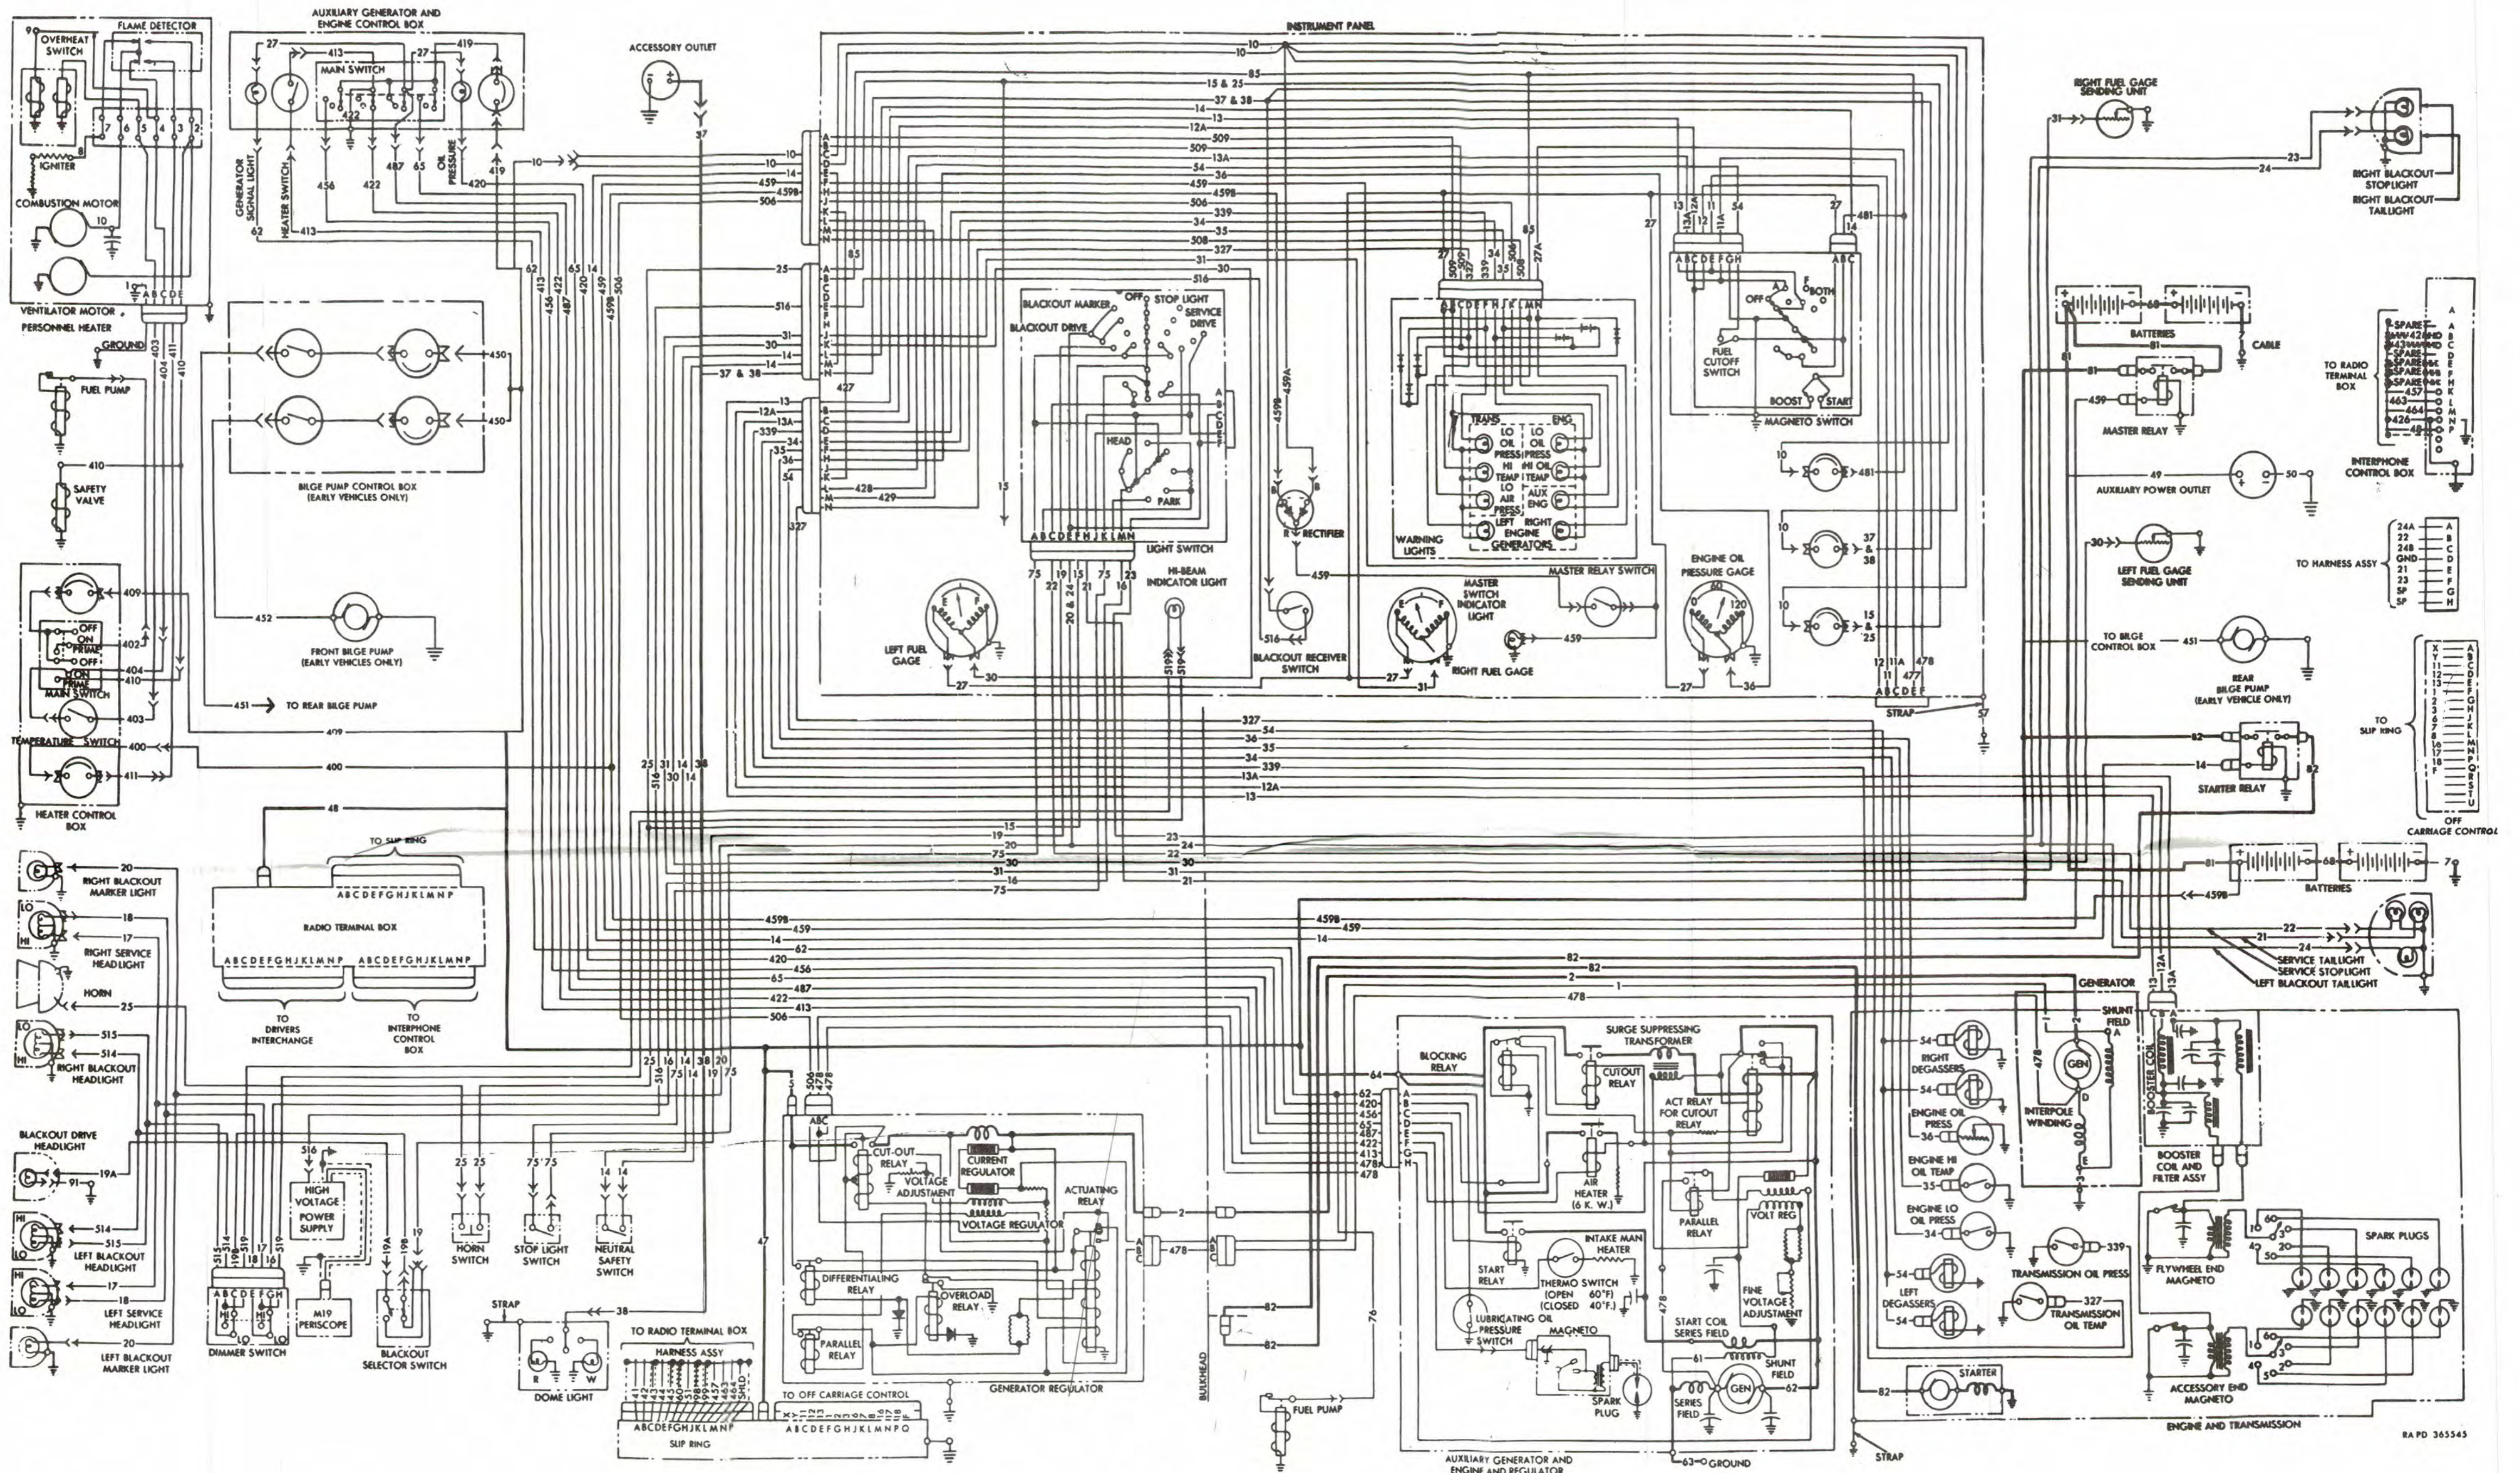

Figure 86. Hull schematic wiring diagram.
b. This technical manual cannot cover all possible troubles and deficiencies that may occur under the many conditions of operation. If a specific trouble, test, and remedy therefor are not covered herein, proceed to isolate the system in which the trouble occurs and then locate the defective component. Use all the senses to observe and to locate troubles. Do not neglect use of any test instruments such as a voltmeter, ammeter, test lamp, hydrometer, and pressure and vacuum gages (pars. 88 and 89) that are available. Standard automotive theories and principles of operation apply in troubleshooting the vehicle. Standard armament procedures apply in troubleshooting the weapon. Question vehicle crew to obtain maximum number of observed symptoms. The greater the number of trouble symptoms that can be evaluated, the easier will be the isolation of defect. Refer to figure 86 for information on locating and tracing electrical circuits in the hull.
- (1) *Check batteries and connection.* Perform weekly B preventive maintenance service (table V). If the engine does not turn after performing this service, proceed with (2) below.
- (2) *Check master relay switch, master relay circuit breaker, and master relay.* Be certain the master relay switch (E, fig. 15) is in the ON position. Turn on the headlights if tactical situation permits. If headlights come on, there is current to the starter switch. If headlights do not come on, check the master relay switch, master relay circuit breaker, master relay, and interconnecting circuits (fig. 86).
- (3) *Check neutral safety switch.* With power at the starter switch, be sure the range selector control lever is in the NEUTRAL PARK position so that neutral safety switch is closed, check circuits to and from switch.